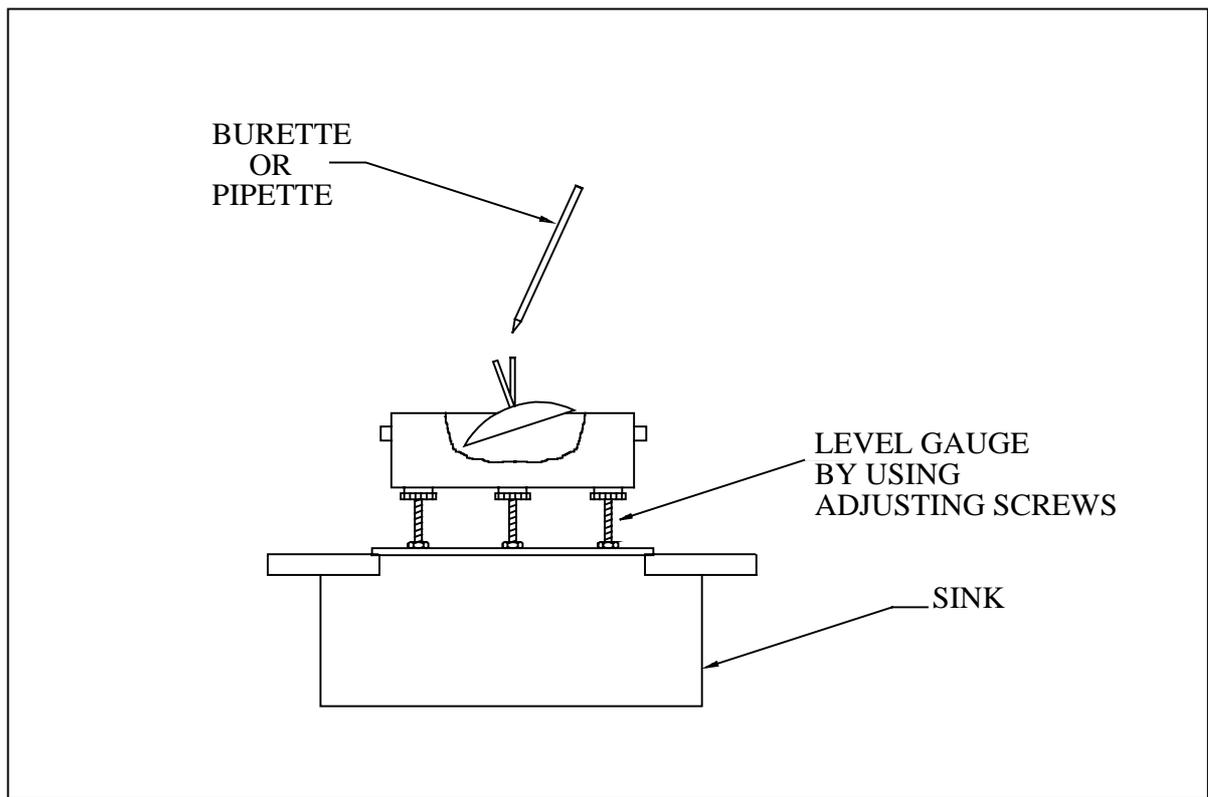

FIGURE 5 STATIC CALIBRATION
2. Install the gauge over a sink as illustrated in Figure 5, ensuring that it is correctly levelled (the RGB1 baseplate can be used for this).